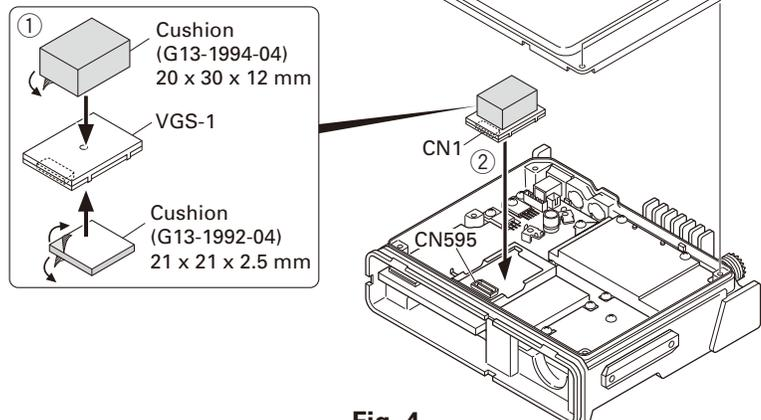

Fig. 4
2. Attach two cushions to VGS-1 as shown in Figure 4. (1)
3. Insert the VGS-1 connector (CN1) into the TX-RX unit (A/2) connector (CN595). (2)